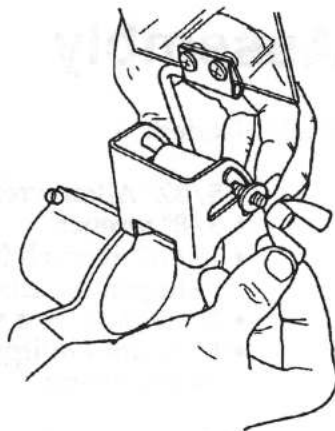

Fig. 10
10. Place a flat washer (20) and wing nut (21) on the carriage bolt, as demonstrated in Fig. 10. Finger tighten.